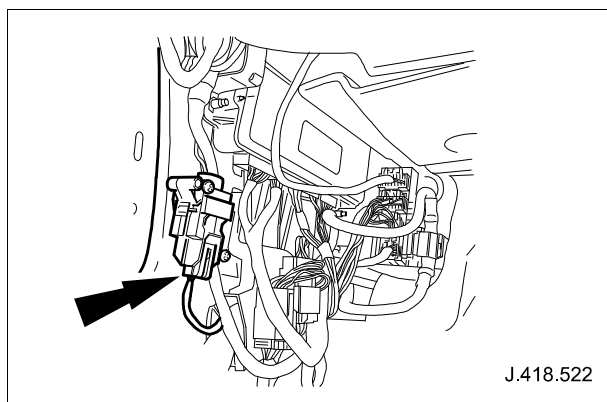

Fig. 8
- 3.2 Check inertia switch connections are pushed fully home and are not damaged i.e. bent/backed-out. Where available, utilize opposing pins from the harness repair kit and insert into populated pins to ensure a good/tight fit is achieved. (See Fig. 8)